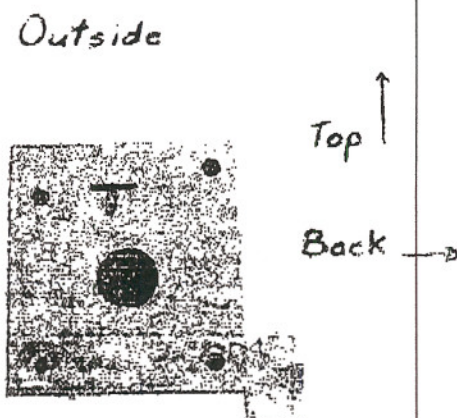

Fig 1
5. Now measure 6 inches (or the distance you have determined if different) up from the bottom of the right outside wall and draw a small line near the center of the side. Then measure the width of the outside wall at that point (6 inches). Divide this measurement in half and mark it on the side. This is the center point of the 1 and 1/4 inch hole that you will need to drill to accommodate the bronze bushing (B) and the main assembly (A). Use the inside mounting plate (T) as a template to properly mark the locations for the main assembly hole and also the 4 bolt holes. The template (mounting plate) has 3 regular bolt holes around the center and one that is further out. This odd hole should be at the top and nearest the back of the slot machine. Make sure the template is square with the bottom of the machine when marking the holes. (Fig. 1) Remove the template and drill the large center hole first. This must be drilled as straight as possible. If you feel uncomfortable doing it yourself, then ask someone for help. Do not drill any other holes until you have first drilled the 1 and 1/4 inch center hole. Locate the bronze bushing (B). Slide it into the 1 and 1/4 inch hole from the inside. There is a flange on the bushing that will not allow it to go all the way through the hole. Once you have completed that, reposition the template over the 1 and 1/4 inch hole. Make sure the bronze bushing is visible evenly through the template hole and mark the location for the other 4 bolts. Remove the template and drill the other 4 holes with a 5/16 inch wood bit. Again drill all the holes as straight and carefully as possible. This will make the rest of the assembly a snap.